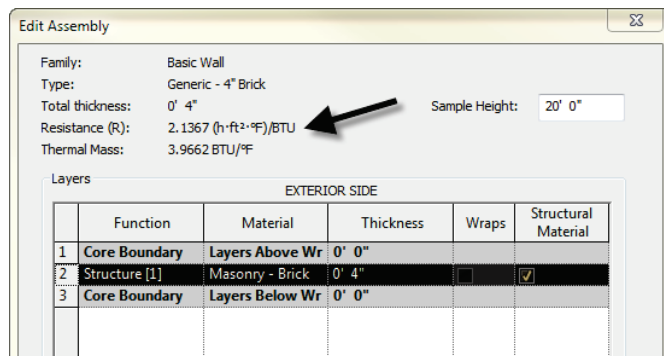

Figure 22
9. Edit the Wall Type and then the Wall Structure and note the Resistance and Thermal Mass properties at the top of the "Edit Assembly" dialog (see Figure 22).